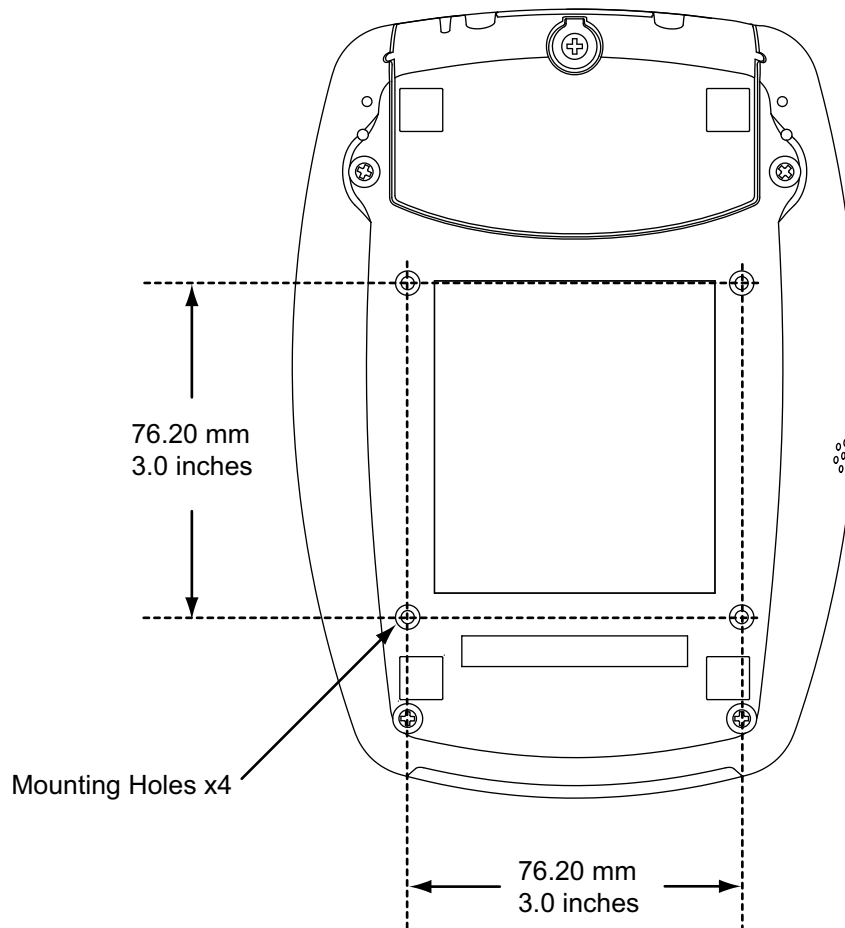

Figure 4. Mounting hole locations
1. Drill four 3.5mm (9/64 inch) holes in the surface where the ViVOpay 8100 will be mounted. Use the hole spacing shown in Figure 4.